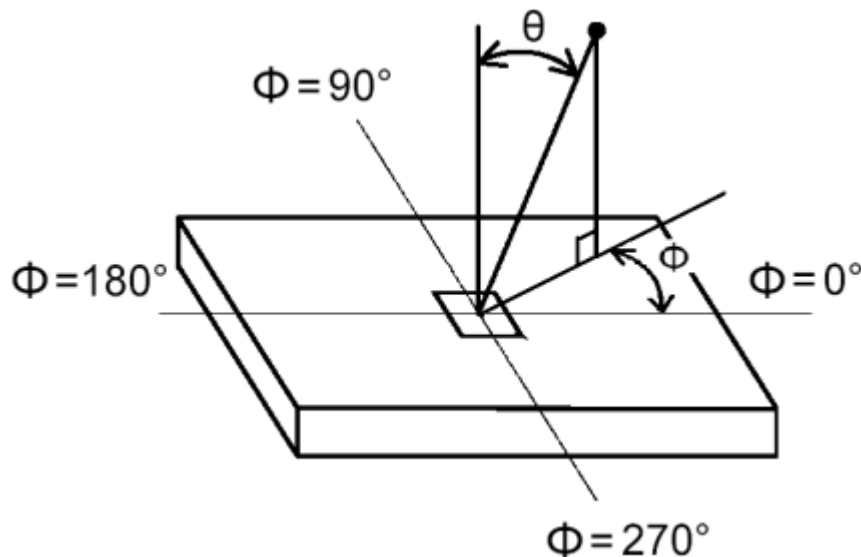

**FIG. 2 Luminance**
2. Surface luminance is luminance value at point 5 across the LCD surface 50cm from the surface with all pixels displaying white. From more information see FIG 2. When LED current  $I_F$  = typical value (without driver board), LED input  $V_{DDB} = 24V$ ,  $I_{DDB}$  = Typical value (with driver board),  $L_{WH} = L_{on5}$  where  $L_{on5}$  is the luminance with all pixels displaying white at center 5 location.